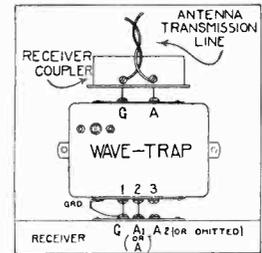

Figure 3—"Spider-Web" or "RK-40" Antenna
**RCA "RK-40" Antenna.**—Attach the Wave-Trap to the radio chassis with the links connected as described for the single-wire antenna. Then mount the receiver-coupling unit of the "RK-40" system upon the "A" and "C" terminals of the trap, using the two metallic links furnished with the antenna system. Connect the external ground soldering lug to the ground terminal on the receiver. (See Fig. 3.)